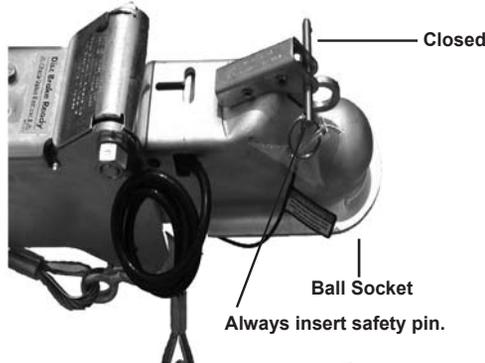

Figure S7: Surge Brake Actuator & Coupling Assembly
For boat models with the Surge Brake Actuator and Coupling Assembly shown in Figure S7, place the coupler latch in the open position to unlock the coupler. Push down on the coupler latch to lock the trailer to the ball hitch. Push coupler latch back until the latch engages and is properly seated. The safety pin, provided with the trailer, or a padlock **must be inserted completely** in the coupler latch hole. This ensures the coupler's latch remains in the locked position during towing of the trailer. Refer to Section S-3 Operation for additional information on couplers and hitching to the tow vehicle.
2. Open the coupler latch fully to allow the ball latch to rotate open. Note: You will have to remove the safety pin from the coupler latch hole to fully extend the coupler latch. The coupler latch will remain up to indicate that it is not yet attached to the ball. See Figure S7.